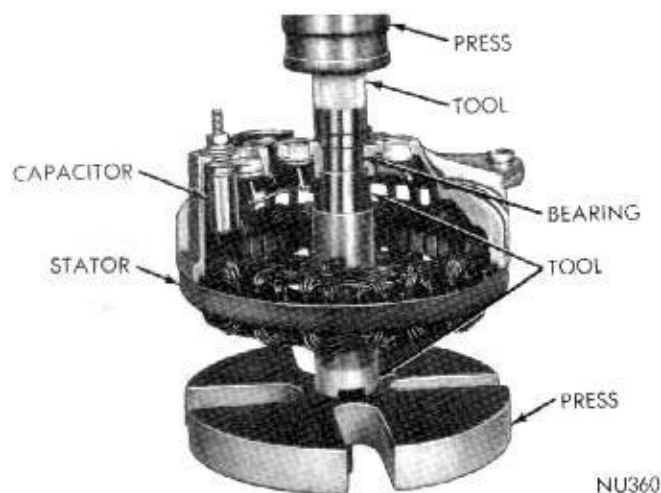

Fig. 30—Installing Rectifier End Shield Bearing
(5) After soldering, stator leads must be pushed down into the slots cast into the end shield and cemented with Cement Part Number 2299314 or equivalent to protect the leads against possible inference with the rotor fans. Test each replacement rectifier to make certain rectifier was not damaged by the soldering or pressing operations.
(6) Support end shield on Tool C-3925 so that notches in the support tool will clear the raised section of the heat sink and press the bearing into position with Tool SP-3381 (Fig. 30), until bottomed on support tool. **New bearings are pre-lubricated, additional lubrication is not required.**
(7) Insert drive end bearing in drive end shield and install bearing retainer plate to hold bearing in place.
(8) Position bearing and drive end shield on rotor shaft and, while supporting base of rotor shaft, press